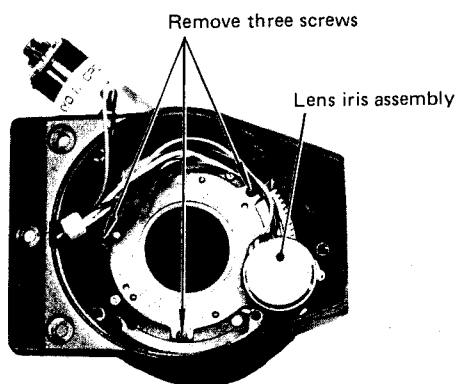

Fig. 4-8
- o Remove three screws which hold the lens iris assembly and remove the lens iris assembly. (Fig. 4-8)